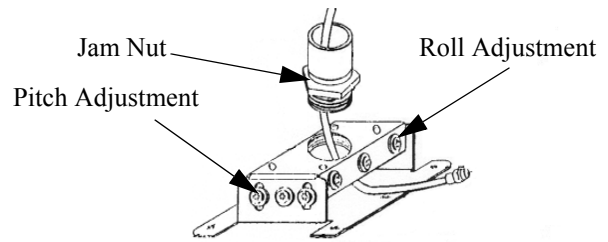

Figure 9. Adjust Yaw, Pitch, and Roll
3. Thread the locking ring against the RPA to lock the RPA in position and, if desired, route the cables through the RPA and pipe as shown in Figure 9.
5. If desired, route cables through RPA as shown in Figure 9.